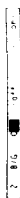

Fig. 8.
- 4 Select if necessary the TV broadcast system (B/G for western European countries, D/K for eastern European countries) or a video input source (EXT) with  $\rightarrow$  or  $\leftarrow$ . Then press OK. The CH position will be highlighted. (See Fig. 8.)